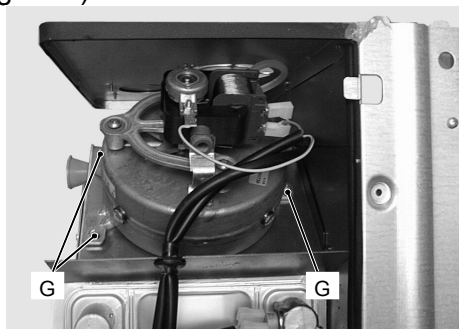

Figure 5
- 4) Unscrew the screws G (Figure 5).